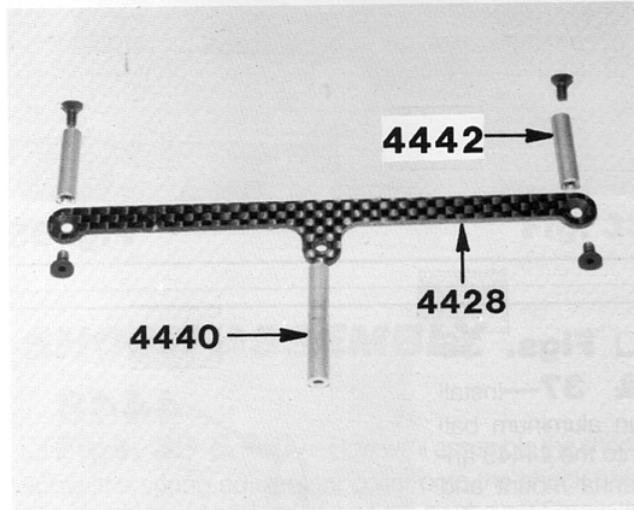

Fig. 29
□ **Figs. 29 & 30**—Time to install the rear #4428 brace. Open Bag #5. Install the two #4432 aluminum tube spacers to the chassis with the two short flat head screws shown, but do not tighten the screws yet.